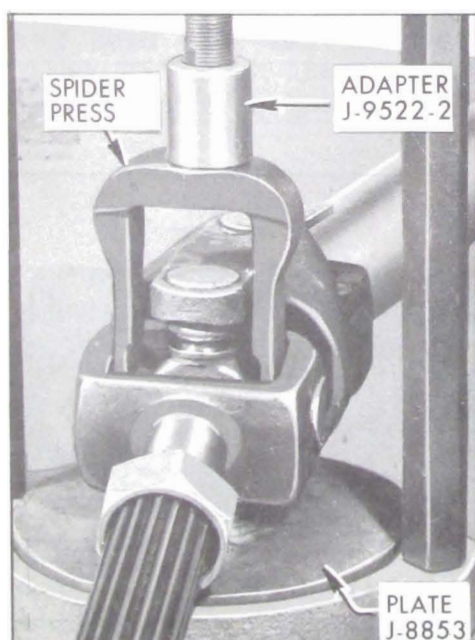

Figure 6-95—Pressing Out Bearing
preparation for removing the propeller shaft bearings. With this use Axle Bearing and Retainer Replacer J-8853 as a base plate. Attach Adapter J-9522-2 onto the ram screw. See Figure 6-95.
3. Position propeller shaft constant velocity joint into the fixture as set up in Step 2 with the link yoke bearing over the hole in J-8853 Replacer Plate. Install Spider Press J-9522-3 on spider. See Figure 6-95. The notches in the spider press are offset so that this press can be positioned on the spider without interference from the link yoke casting.